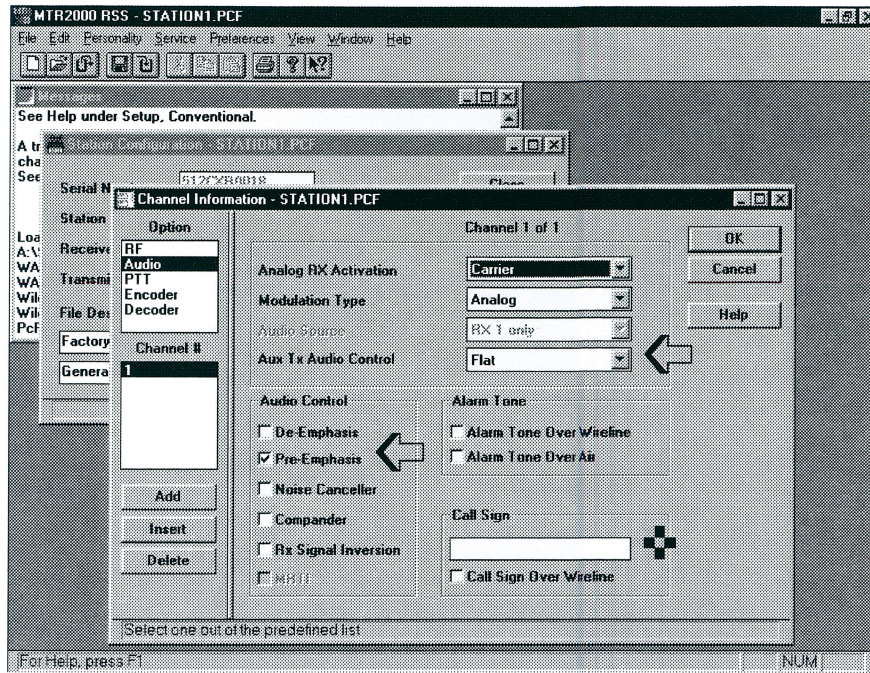

Fig. 5
9. In the upper left hand corner of the **Channel Information** window under **Option**, click on **Audio**. A window as shown in Fig. 5 will appear. Every option in this window must be set to match Fig. 5 exactly. **Alarm Tone** and **Call Sign** are the only options that may differ. The options in the Configuration window marked by the arrows (⇒) are items of particular importance.